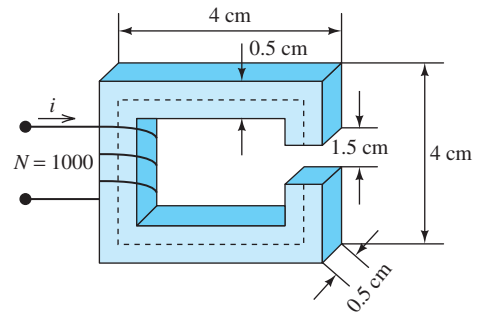

FIGURE P12.22 Magnetic circuit with air gap.
12.22 (A) Find the flux and the flux density in the gap for the magnetic circuit shown in Figure P12.22, given $\mu_{\text{rcore}} = 3000$ and $i = 5$ A.